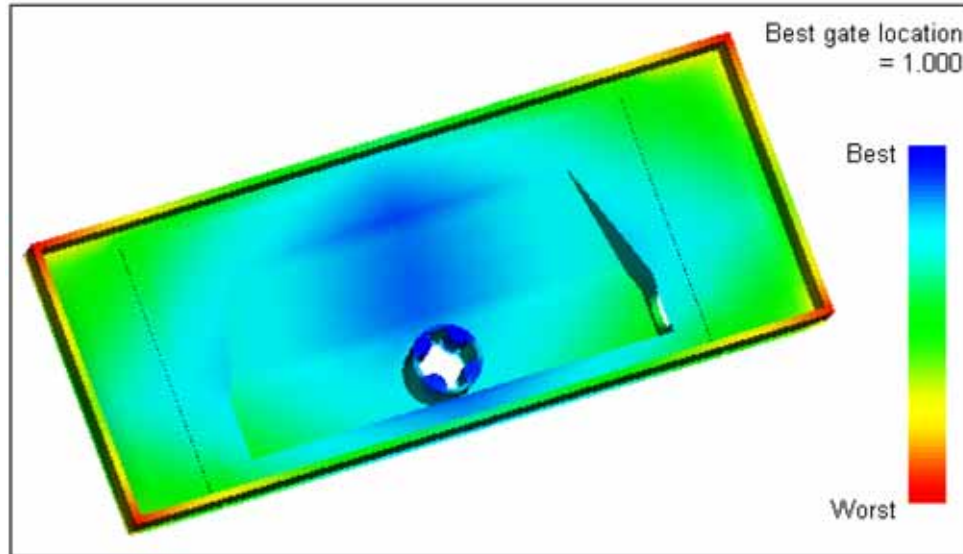

Figure 90: Best gate location result
2. Rotate the model to view all sides and then pick a good rotation where you can see the blue area(s), as shown in Figure 90.
In Figure 90, the properties of the results were set to have a smooth rather than a banded color transition. Sometimes banded is useful for highlighting the best area.